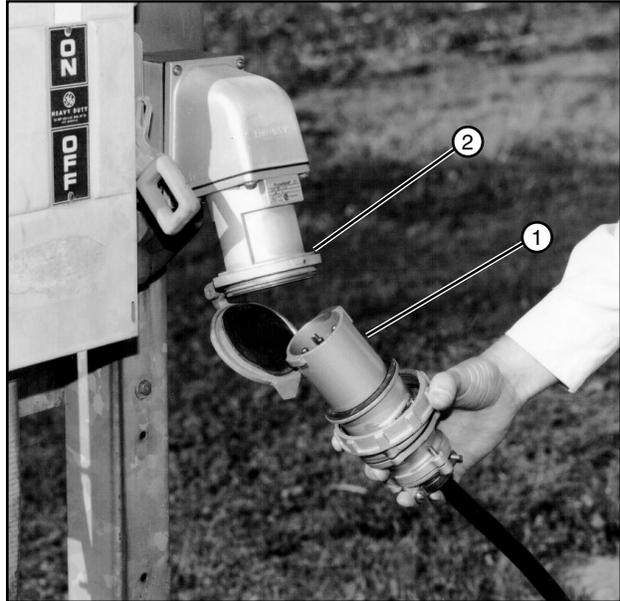

Figure 48-1 1. Power Plug
5. Unplug the power plug from the receptacle. See Figure 48-1.